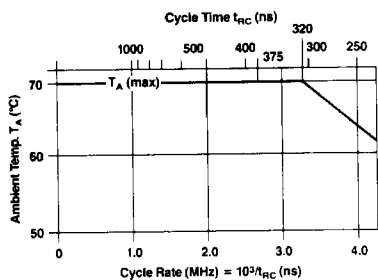
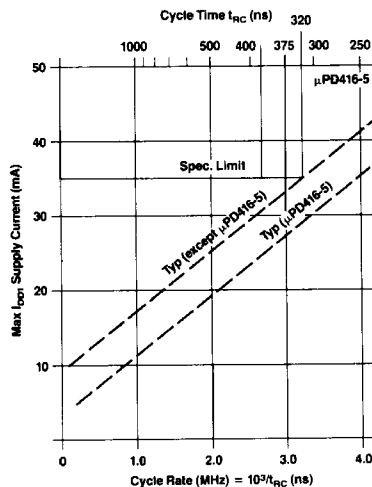

Figure 1. Maximum Ambient Temperature versus Cycle Rate for Extended Frequency Operation
Figure 2. Maximum I_{DD1} versus Cycle Rate for Device Operation at Extended Frequencies
- Notes: ① T_A is specified here for operation at frequencies to t_{RC} ≥ t_{RC} (min). Operation at higher cycle rates with reduced ambient temperatures and high power dissipation is permissible, provided AC operating parameters are met. See Figure 1 for derating curve.
② All voltages referenced to GND.
③ Output voltage will swing from GND to V_{CC} when activated with no current loading. For purposes of maintaining data in standby mode, V_{CC} may be reduced to GND without affecting refresh operations or data retention. However, the V_{OH} (min) specification is not guaranteed in this mode.
④ I_{DD1}, I_{DD3}, and I_{DD4} depend on cycle rate. See Figures 2, 3 and 4 for I_{DD} limits at other cycle rates.
⑤ I_{CC1} and I_{CC4} depend upon output loading. During readout of high-level data V_{CC} is connected through a low impedance (135Ω typ) to data-out. At all other times I_{CC} consists of leakage currents only.